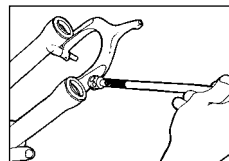

Fig. 7
7. Apply Judy Butter to the surface of the four bushings, the inside of the lower tubes and fill the pocket between the lips of the double seal completely. Use a socket extension wrapped with cloth tape dipped in Judy Butter to reach inside the lower tubes. (See Fig. 7)